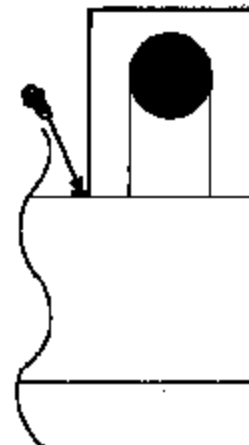

Fig. 6
9. From under the coach right behind the drivers side rear wheel, locate the front edge of the muffler shroud. The heat shield should be overlapping the front side of the muffler shroud about one inch (1"). With the use of three (3) self-drilling screws attach the heat shield to the front of the muffler shroud. (Fig. 6)